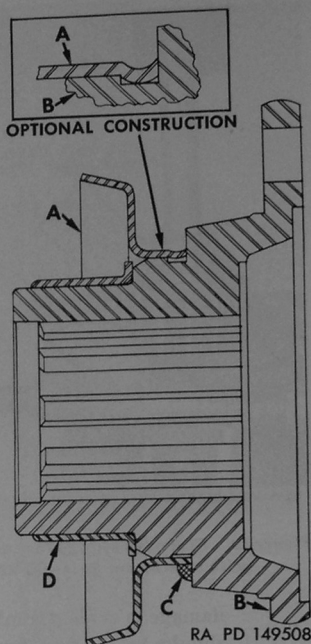

Figure 60. Sectional view of input shaft flange assembly.
(7) Examine input shaft front bearing retainer (D). If evidence of excessive wear appears at surfaces contacted by bearing and snap ring, or if retainer is distorted or otherwise damaged, the retainer should be replaced.
(8) Inspect deflector and oil seal sleeve on input shaft flange assembly (fig. 60). If surface of sleeve is scored or grooved at point of contact with oil seal lip, or if deflector is bent or otherwise damaged, these parts should be replaced. Refer to *c* below for procedure necessary to replace sleeve and deflector.
(9) Check width of fork groove on sliding gear (L). Replace gear if groove is worn (par. 343a).
- (b) File off any weld metal at flange shoulder which would prevent new deflector from seating against shoulder; then locate new deflector on flange as shown in figure 60.
- (c) Either of the methods shown in figure 60 may be used to attach new deflector to flange. When peening deflector into groove as shown in inset (fig. 60), use peening tool and peen in four equally spaced places. If welding is employed, tack weld deflector to flange in three places.
- (2) *Replacing oil seal sleeve on input shaft flange assembly.*
- (a) Using a light-weight hammer, tap sleeve (fig. 60) over entire exposed area to stretch metal and loosen sleeve on flange; then use chisel to cut through sleeve flange. Pry sleeve off flange assembly.